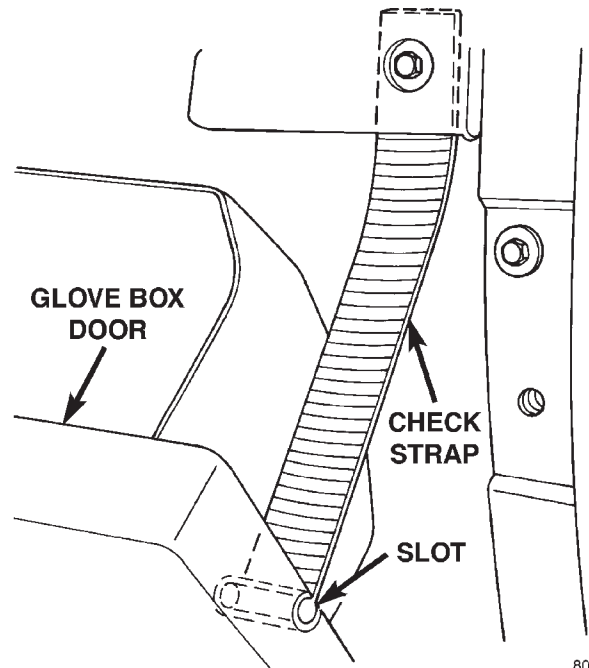

Fig. 15 Glove Box Remove/Install
- (1) Disconnect and isolate the battery negative cable.
- (2) Release the glove box latch and open the glove box door.
- (3) While supporting the glove box door with one hand, grasp the check strap as close to the glove box door as possible and slide the rolled end of the check strap out of the slot in the edge of the door (Fig. 15).
- (4) Lower the glove box door far enough to disengage the hinge hook formations on the lower edge of the door from the hinge pins on the lower edge of the instrument panel.
- (5) Remove the glove box from the instrument panel.